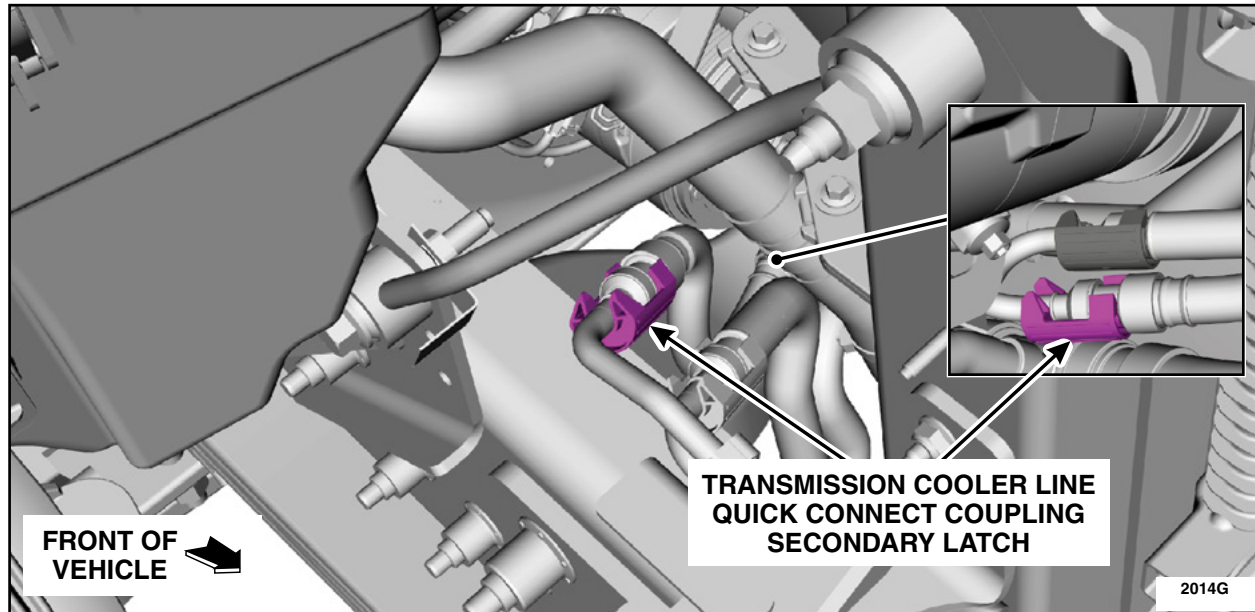

FIGURE 8
9. Install the transmission cooler line quick-connect coupling secondary latches. See Figure 8.